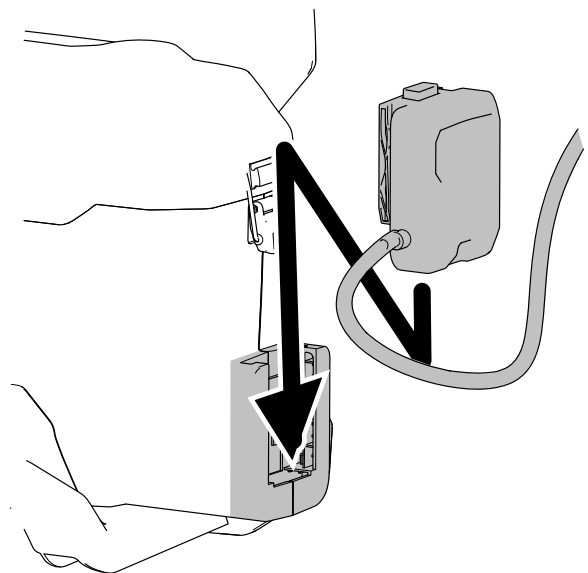

Figure 4
1. Align the backpack connector to the backpack and slide it down into the backpack until it locks into the latch (Figure 4).